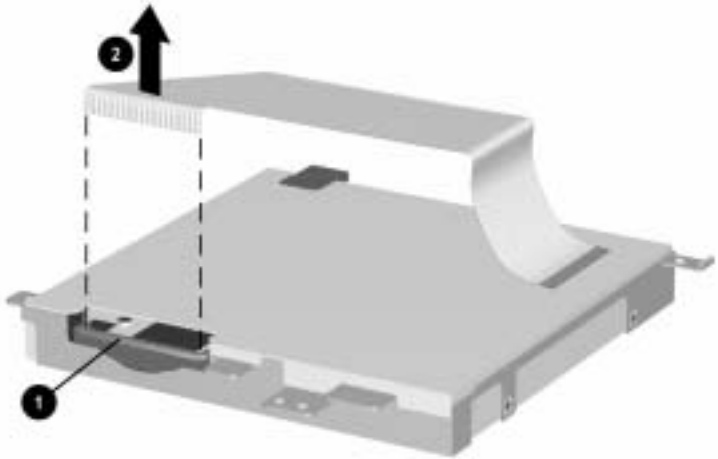

Figure 5-32. Removing the Diskette Drive Cable
6. Release the ZIF connector ❶ to which the diskette drive cable is connected and disconnect the diskette drive cable ❷ from the drive (Figure 5-32).